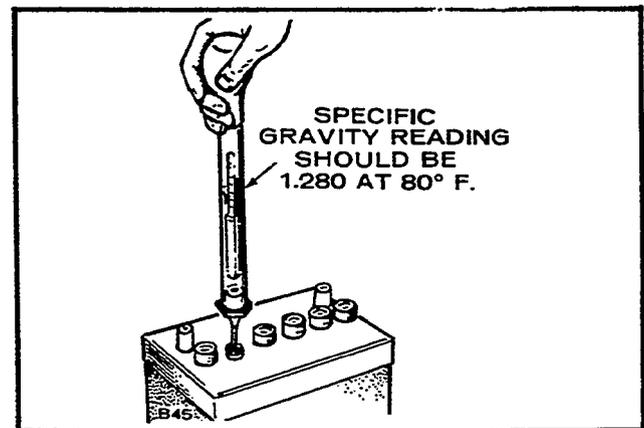

FIGURE 14. SPECIFIC GRAVITY TEST
**Battery Inspection:** Check battery cells with a hydrometer. The specific gravity reading should be approximately 1.280 at 80°F. (Figure 14).